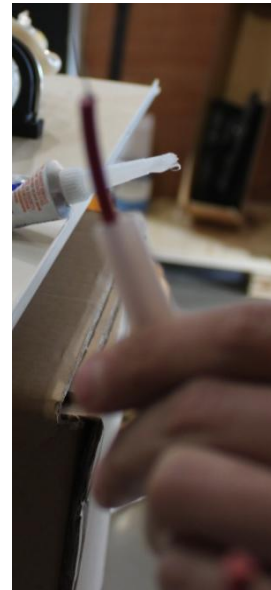

Figure 57
2. Slide one piece of silicone tubing onto the red lead (Figure 57).